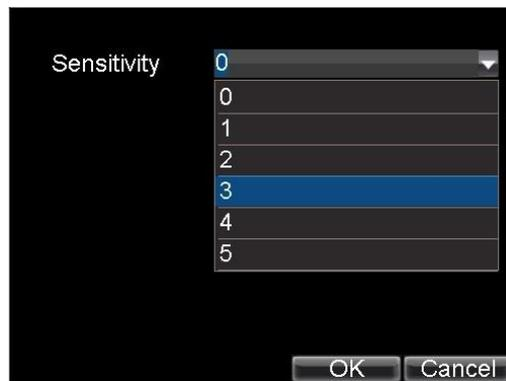

Figure 4. Motion Sensitivity Settings
5. Right click mouse or press the **MENU** button on the front panel to set the Motion Detection Sensitivity, shown in Figure 4. Higher sensitivity value corresponds to higher sensitivity level.